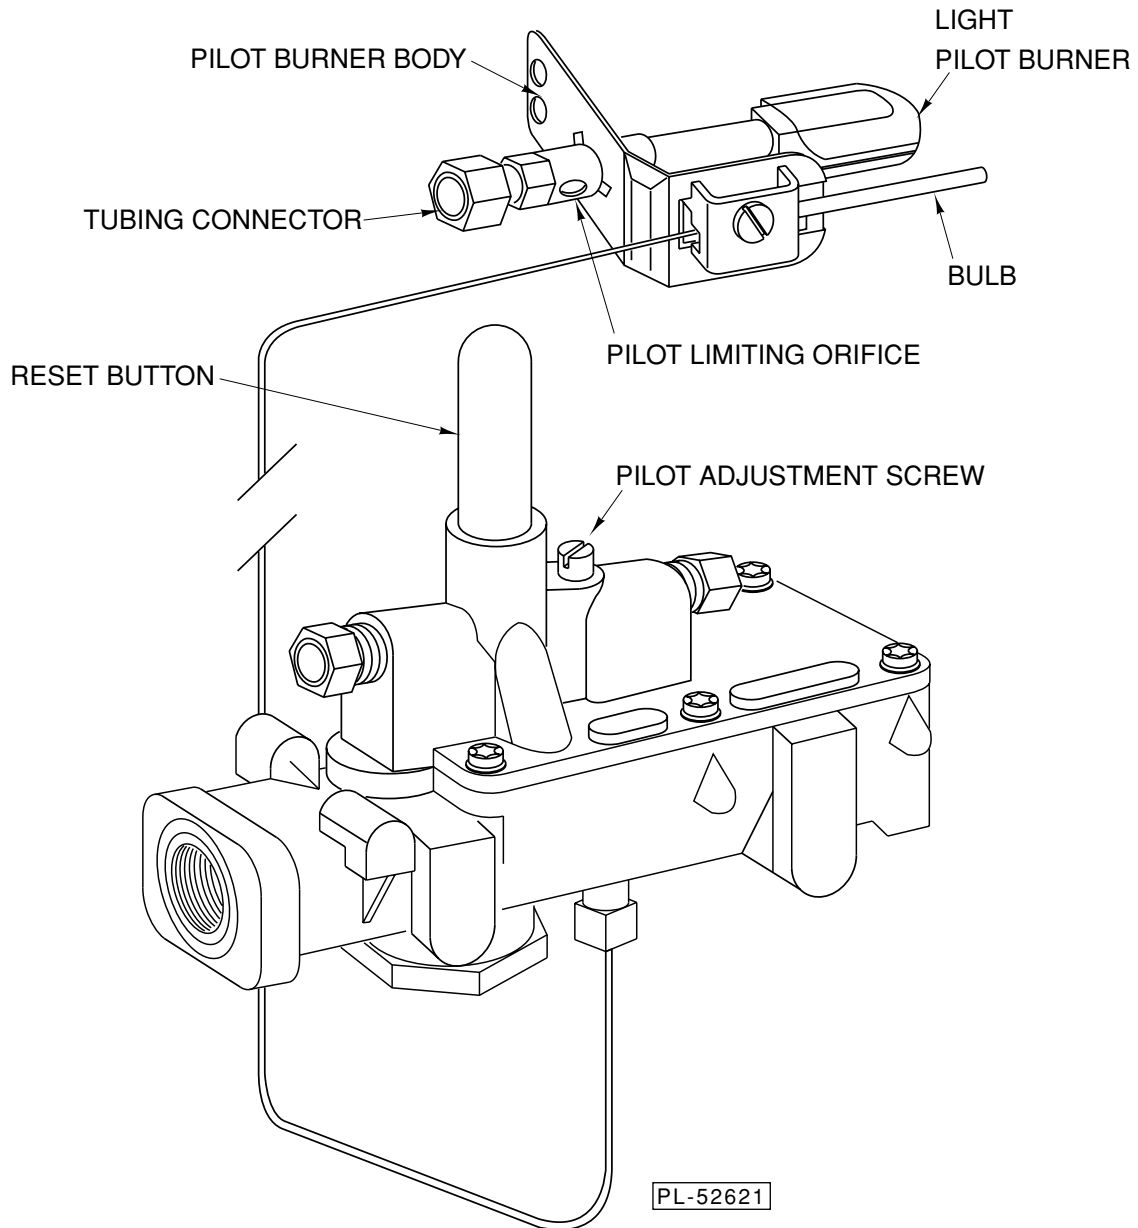

Fig. 5
2. Rotate the adjustment screw (Fig. 5) clockwise to decrease the pilot, or counterclockwise to increase the pilot flame.